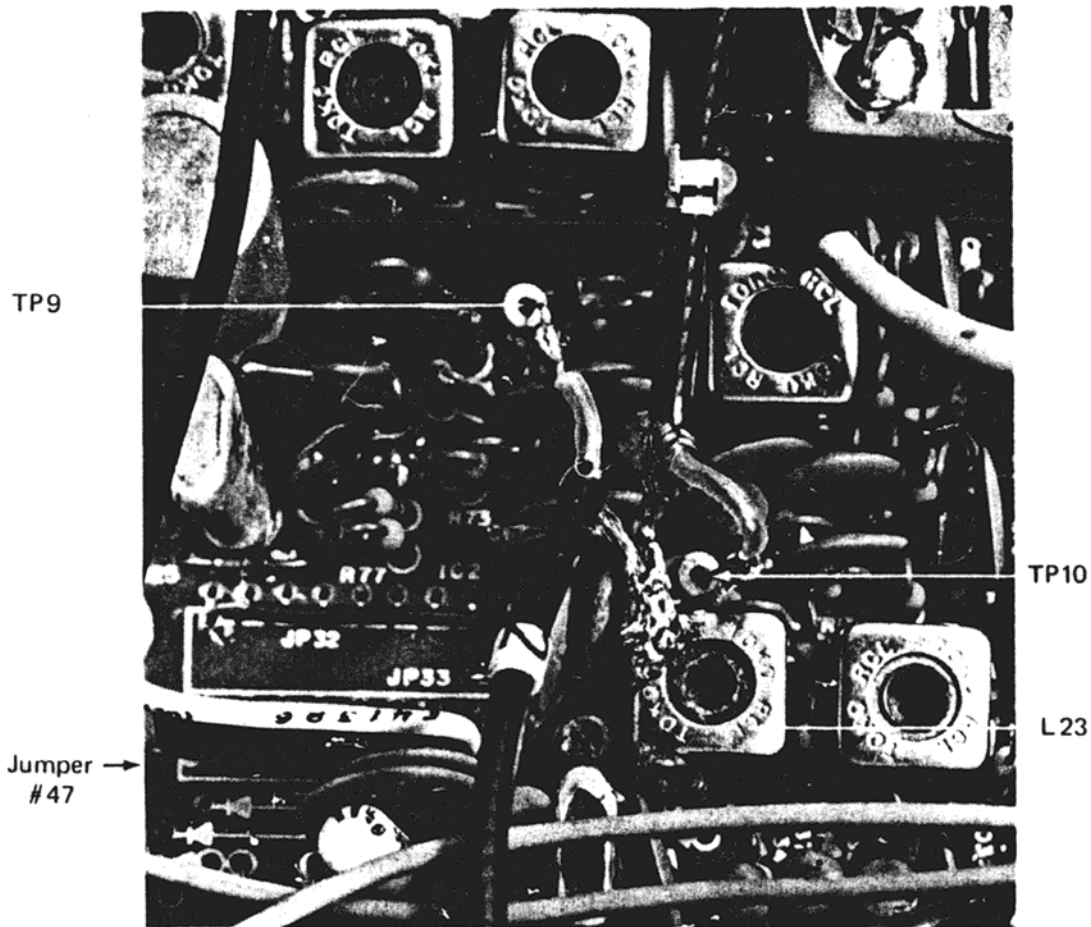

FIG. 2 — LOCATION OF TEST POINTS (MB8719 PLL)
7. Connect the ground shield of both coax cables to ground. (Example: Metal shield of L23 (see Fig. 2).
10. CUT THE JUMPER WIRE (see Fig. 2, labeled #47), LOCATED BEHIND THE CHANNEL SELECTOR TO COMPLY WITH FCC REGULATIONS.